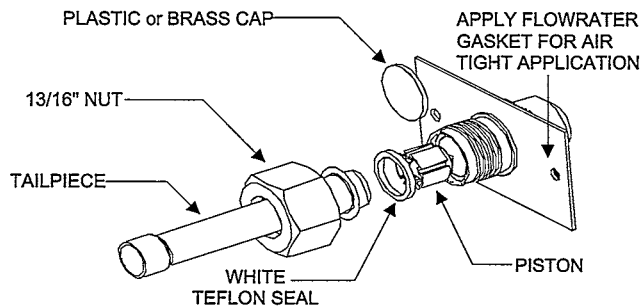

Figure 1
THIS COIL IS SHIPPED UNDER PRESSURE. FOLLOW THESE INSTRUCTIONS TO PREVENT INJURY (SEE FIGURES 1 AND 2).
6. **Slide the 13/16 nut into position (Figure 1)**. Braze tailpiece to liquid tube.